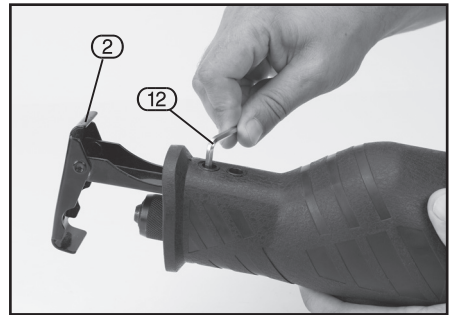

FIG.3
8.2 ADJUSTABLE FOOT - FIGS 3 - 4